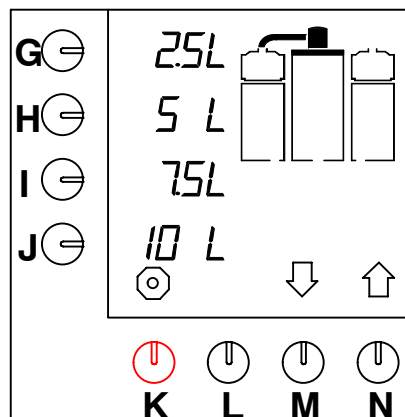

Fig. 8 Starting screen
- The indicator lamp in the switch lights up. The default options appear in the display (fig.8).
- Place the filter paper in the filter cone (V.) (if available) or in the filterpan (W) and add the required amount of ground coffee. For the recommended ground filter coffee and filter paper (quality and quantity), see § 2.6).